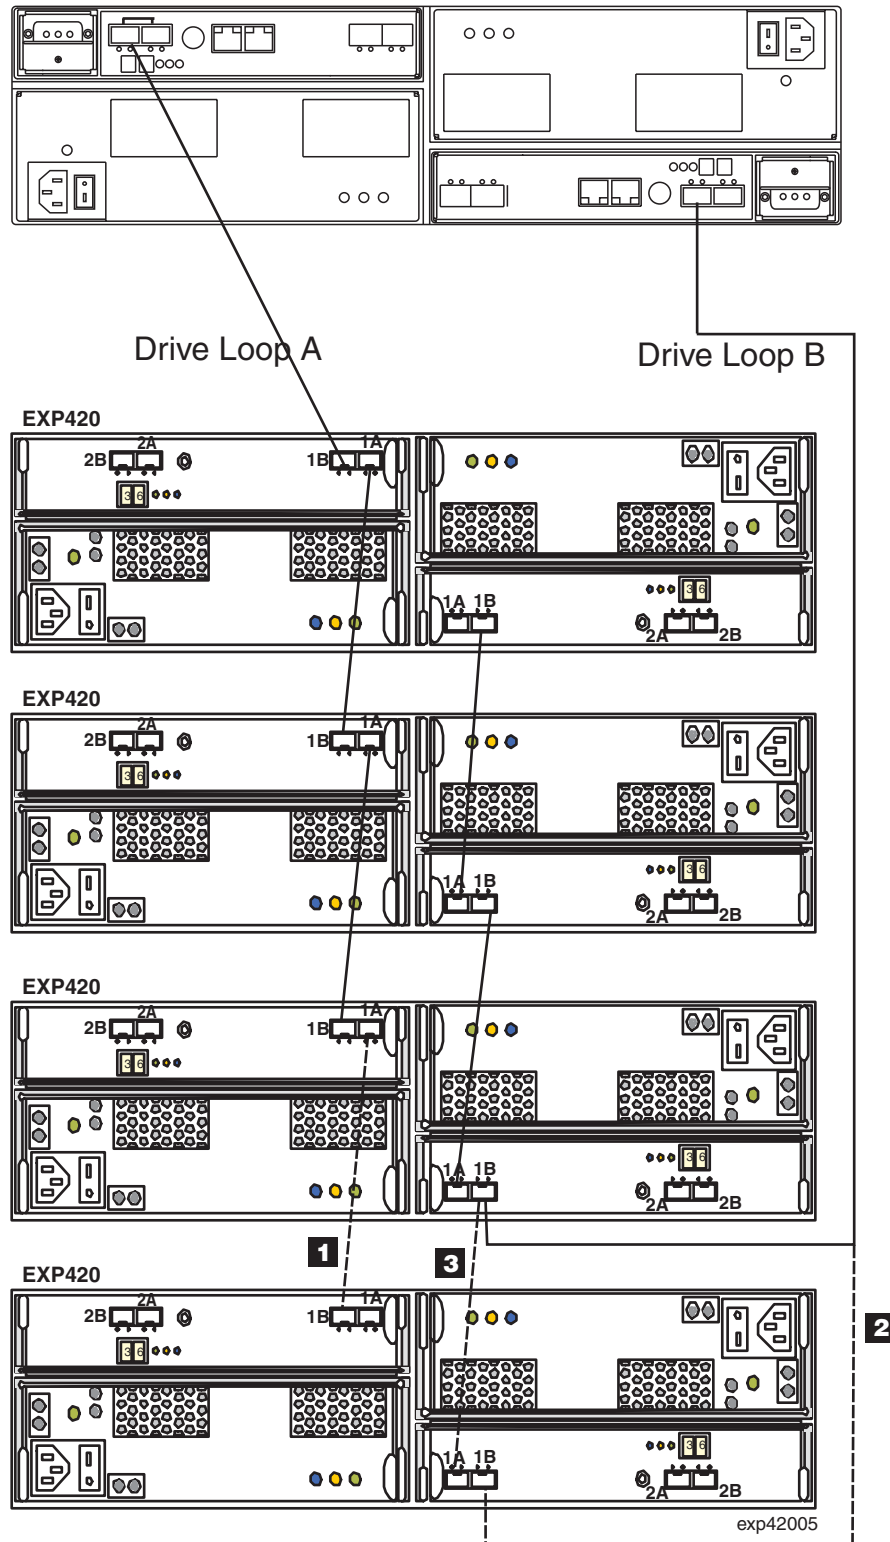

Figure 43. Cabling the EXP420 to an existing and configured drive loop
Figure 43 on page 75 shows an example of a DS4000 storage subsystem configured with redundant drive loop pairs.
The dashed lines in Figure 43 show how to add a new EXP420 to an existing DS4200 Express configuration with EXP420s. To add the new EXP420 shown in Figure 43, perform the following steps:
4. Make the fibre-channel connection marked **1** in Figure 43 on page 75 (drive loop A) by connecting port 1A of the existing EXP420 to port 1B of the new EXP420. Then verify that it is recognized by the Storage Manager software GUI.
5. Move the existing fibre-channel connection marked **2** in Figure 43 on page 75 from the existing EXP420 enclosure ESM port 1B to the new EXP420 enclosure ESM port 1B.
6. Make the fibre-channel connection marked **3** in Figure 43 on page 75 (drive loop B) by connecting port 1A of the new EXP420 to port 1B of the existing EXP420.